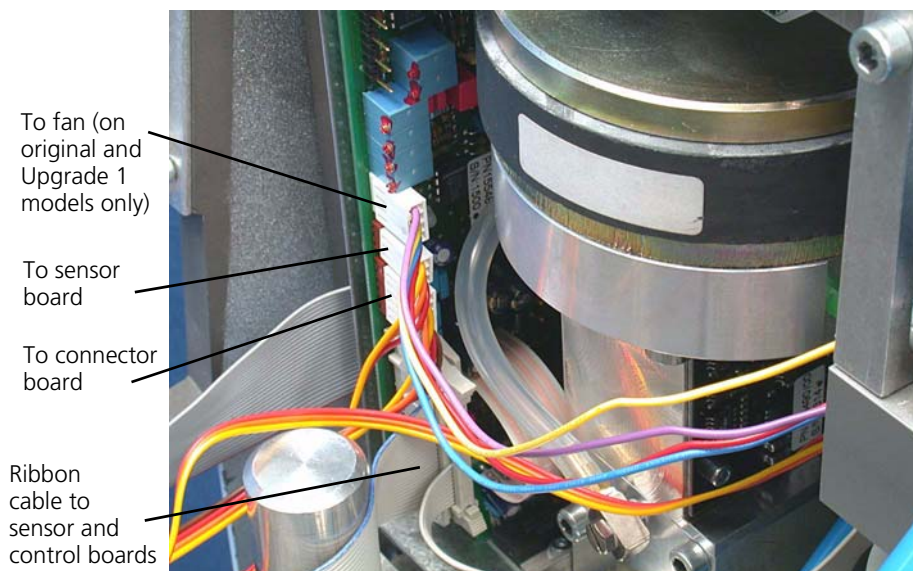

Figure 11-124. The electrical connections to the servo board
3. Attach the shaped white pneumatic tube and electrical connections. Make sure that all connections are correct. (Figure 11-124.)